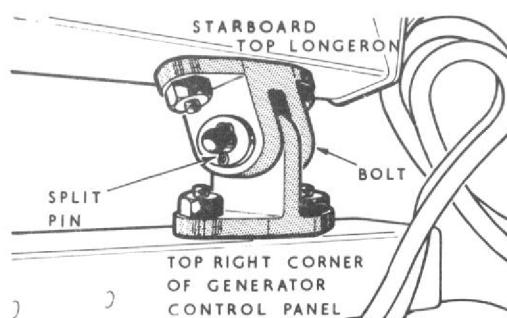

Fig.2. Generator control panel upper attachment
- (1) Render the aircraft electrically safe, as described in Group A.1.
- (2) Remove the radio access door.
- (3) Disconnect cable assemblies C.37, C.38, F.52 and C.32 from the differential cut-outs and the battery relay mounted on the control panel. Remove any straps and clips securing these cable assemblies, insulate the bare cable ends and stow the assemblies away from the panel.
- (4) Remove the standby battery box as described in Group B.1.
- (5) Disengage the four fasteners securing the bottom of the panel and swing the panel up to gain access to cable assembly F.49 at the top of the supply panel.
- (6) Disconnect cable assembly F.49 from the plug located at the top of the supply panel. Seal off the plug and socket with an approved cap and cover.
- (7) With a second person supporting the panel, withdraw the two top hinge pins by removing the split-pins and washers (fig.2)
- (8) Lower the panel and remove it from the aircraft, complete with cable assembly F.49.